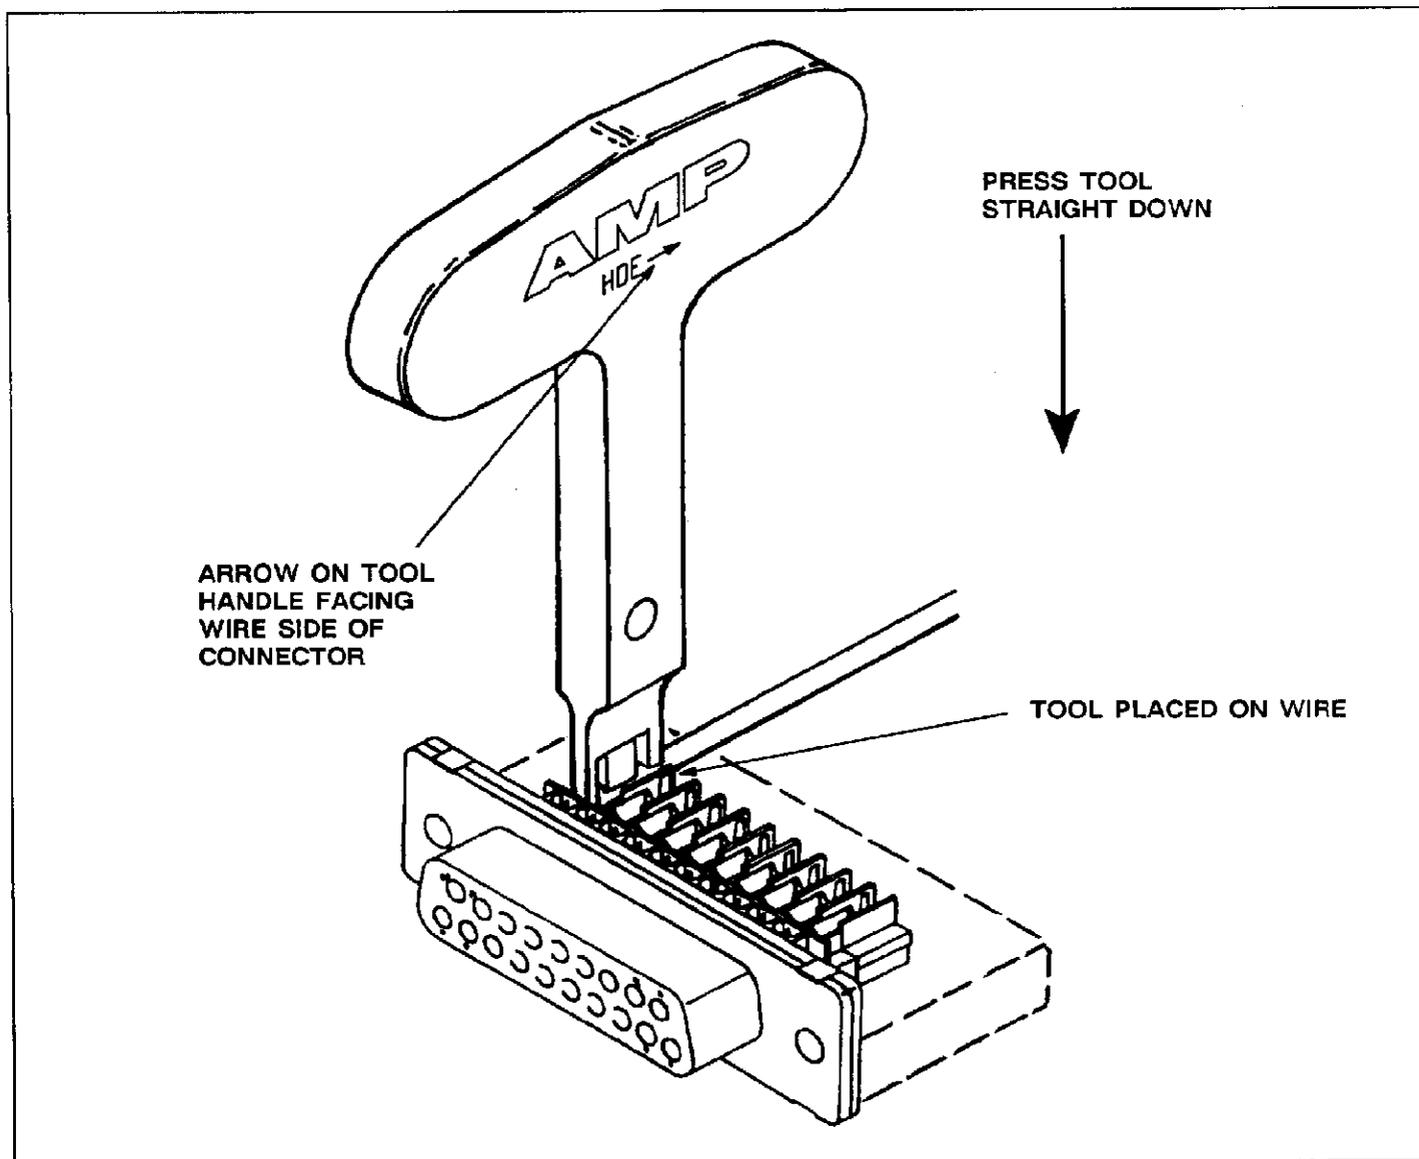

Fig. 3
3. Place the tool on the wire as shown in Figure 3. Make sure that the arrow on the tool handle, shown in Figure 1, points toward the wire termination side of the connector.